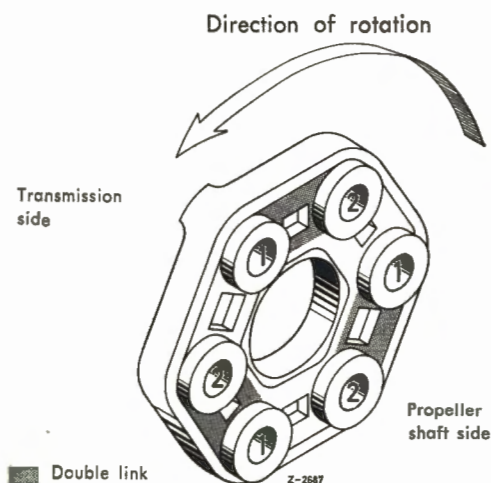

Fig. 26-1/9
16. Place the sealing (3) on the main shaft, push the propeller shaft forward and lightly screw the propeller shaft intermediate bearing to the chassis base panel.
17. Firmly screw the propeller shaft to the shaft plate paying attention to the center cross (1) (Fig. 26-1/5).
Note: The shaft plate must be installed in such a way that the double links are under tensile stress (see Fig. 26-1/9).